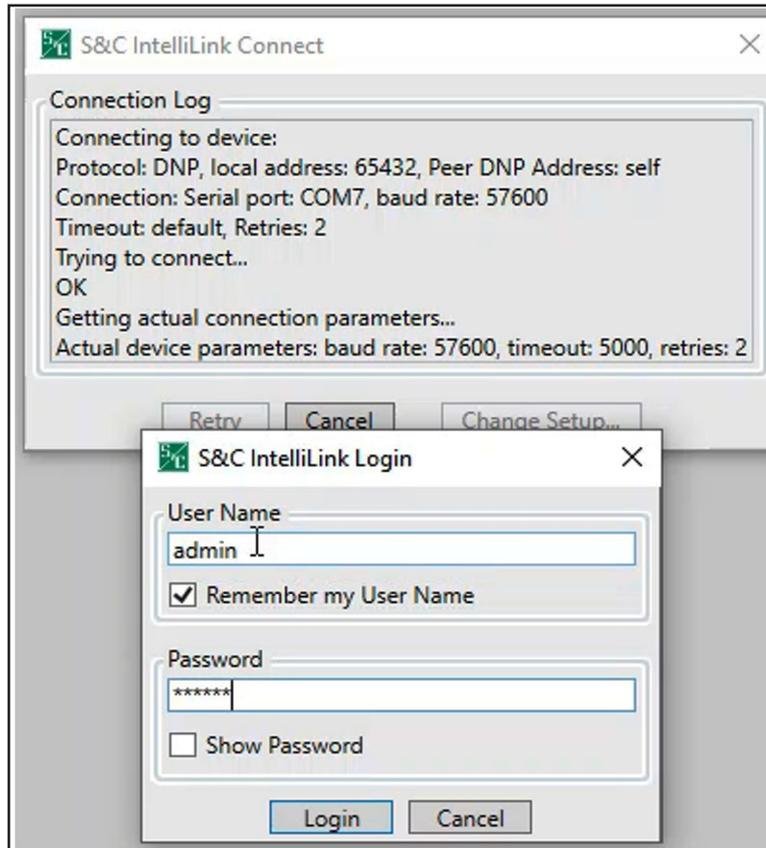

Figure 60. The IntelliLink software Login dialog box.
STEP 4. When prompted, enter “admin” for the username and enter the Admin password in the **Password** field. See Figure 60.